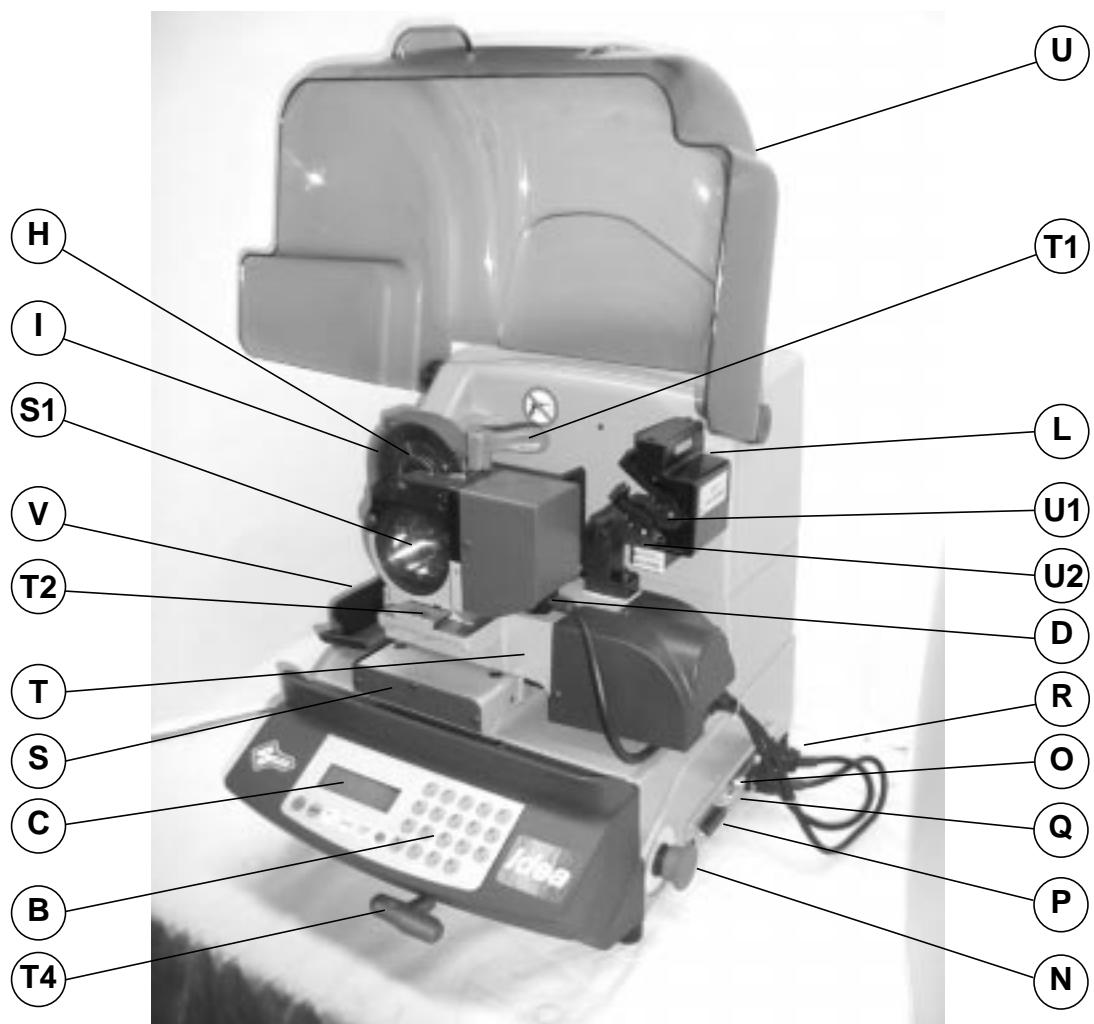

Fig. 10
The shield (U) (fig. 10, page 8) must be raised in order to fit keys for cutting or carry out other operations. Raising of the shield is controlled by a microswitch and deactivates the operating and movement functions, including the cutter. A special message appears on the display to warn that the shield is not closed.
The red emergency button (N) (fig. 10, page 8) placed on the right-hand side of the machine is used to stop it immediately in the event of faulty operation or danger for the operator.
The special holder for the “T” wrench (T4), on the front of the machine below keyboard (fig. 10) prevents damage to the machine caused by inadvertently leaving the wrench on the rotating clamp or the tailstock. It is therefore essential that the wrench (T4) is placed into its holder after use.